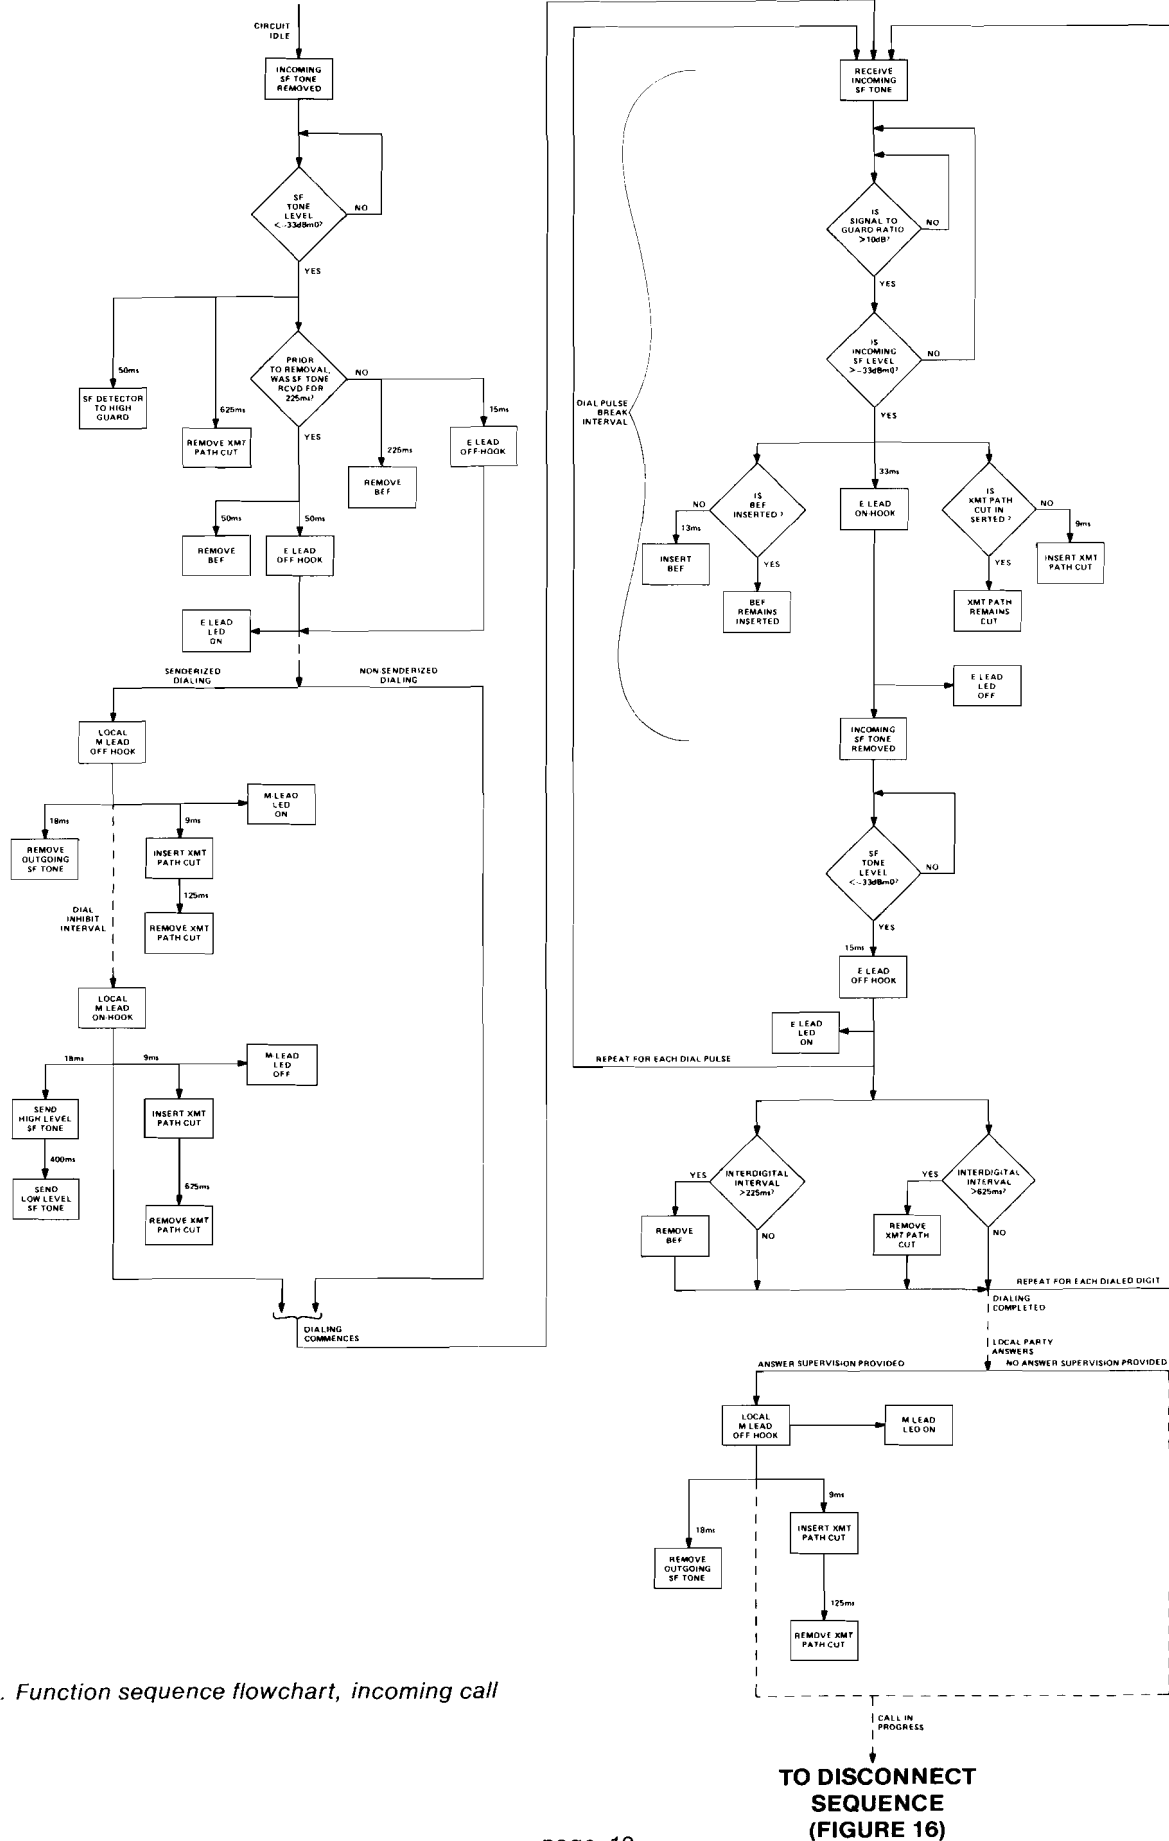

figure 14. Function sequence flowchart, incoming call
7.01 The *troubleshooting guide* in this section may be used in conjunction with the function sequence flowcharts (figures 14 through 16) in section 4 of this practice to assist in the installation, testing, or troubleshooting of the 6170 4Wire-to-4Wire SF-to-E&M Intermediate Repeater module. The guide is intended as an aid in the localization of trouble to a specific module. If a module is suspected of being defective, a new one should be substituted and the test conducted again. If the substitute module operates correctly, the original module should be considered defective and returned to Tellabs for repair or replacement. We strongly recommend that no internal (component-level) testing or repairs be attempted. Unauthorized testing or repairs may void the module's warranty. Also, if the module is part of a registered system, unauthorized repairs will result in noncompliance with Part 68 of the FCC Rules and Regulations.